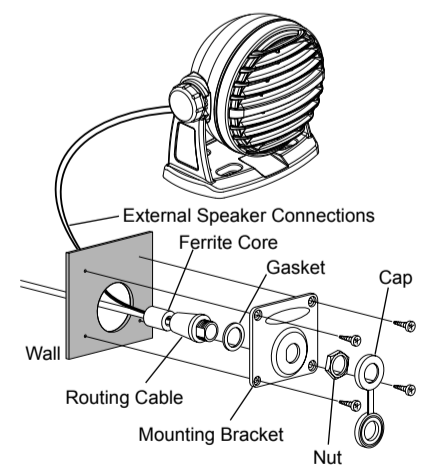

FIGURE 3
3. Referring to Figure 3, make a 1.2" (30 mm) hole in the wall then insert the Extension Cable into this hole. Connect the Gasket and Mount Base to the Extension Cable Connector using the Nut.